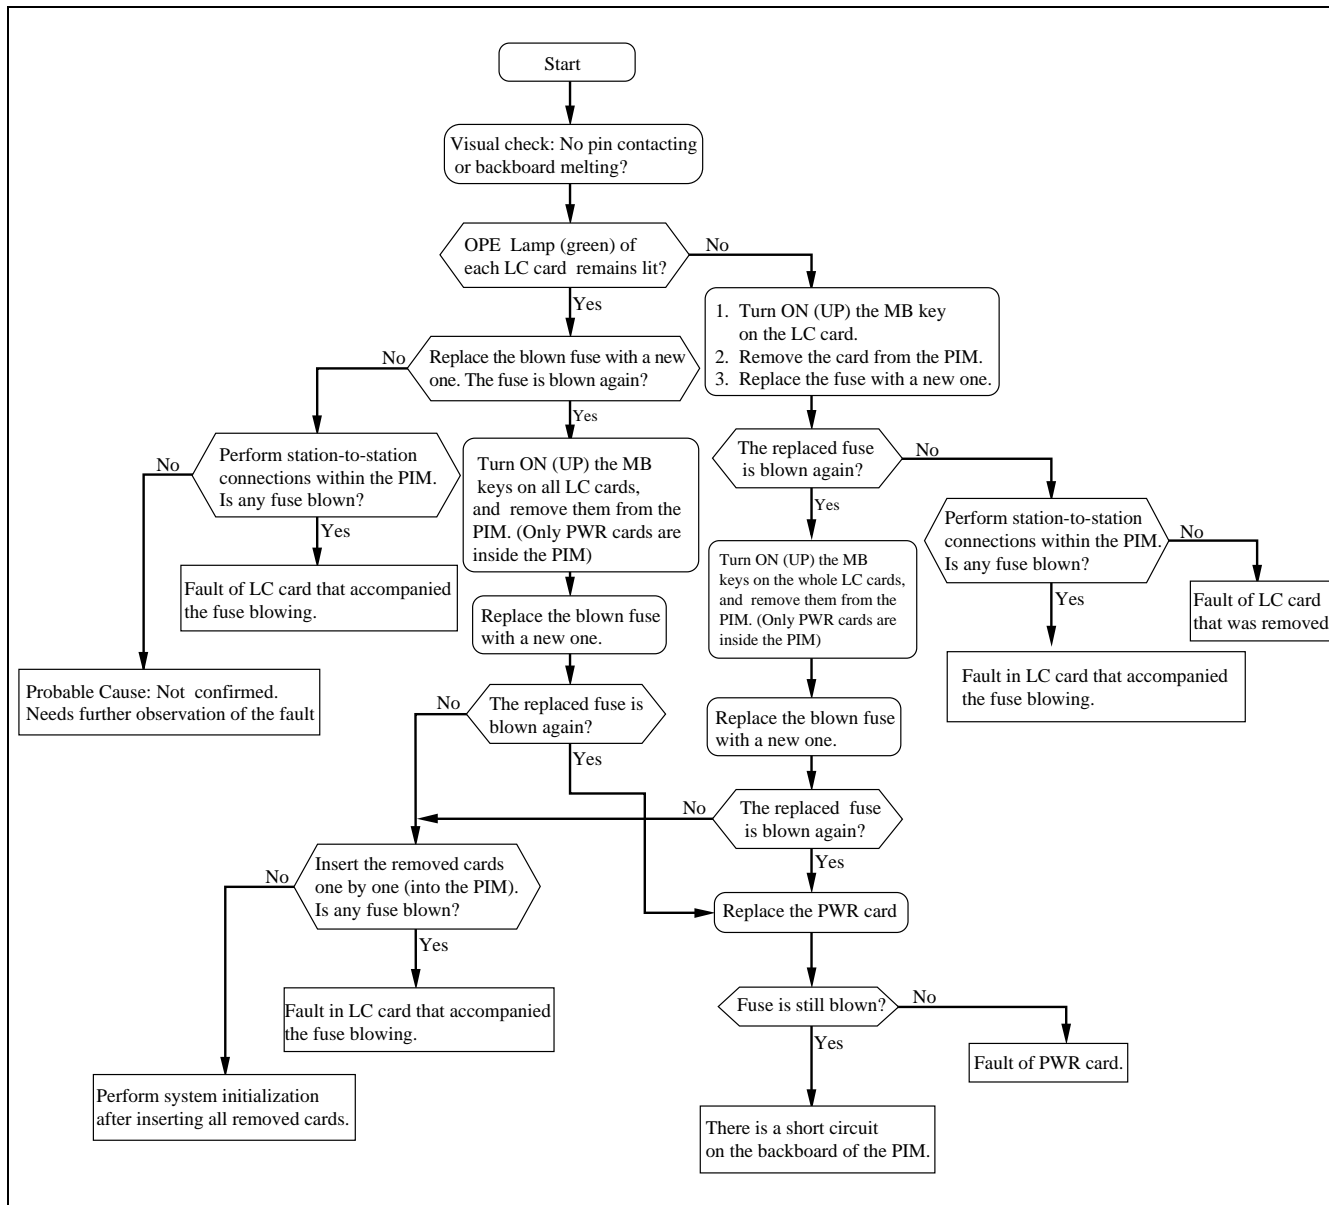
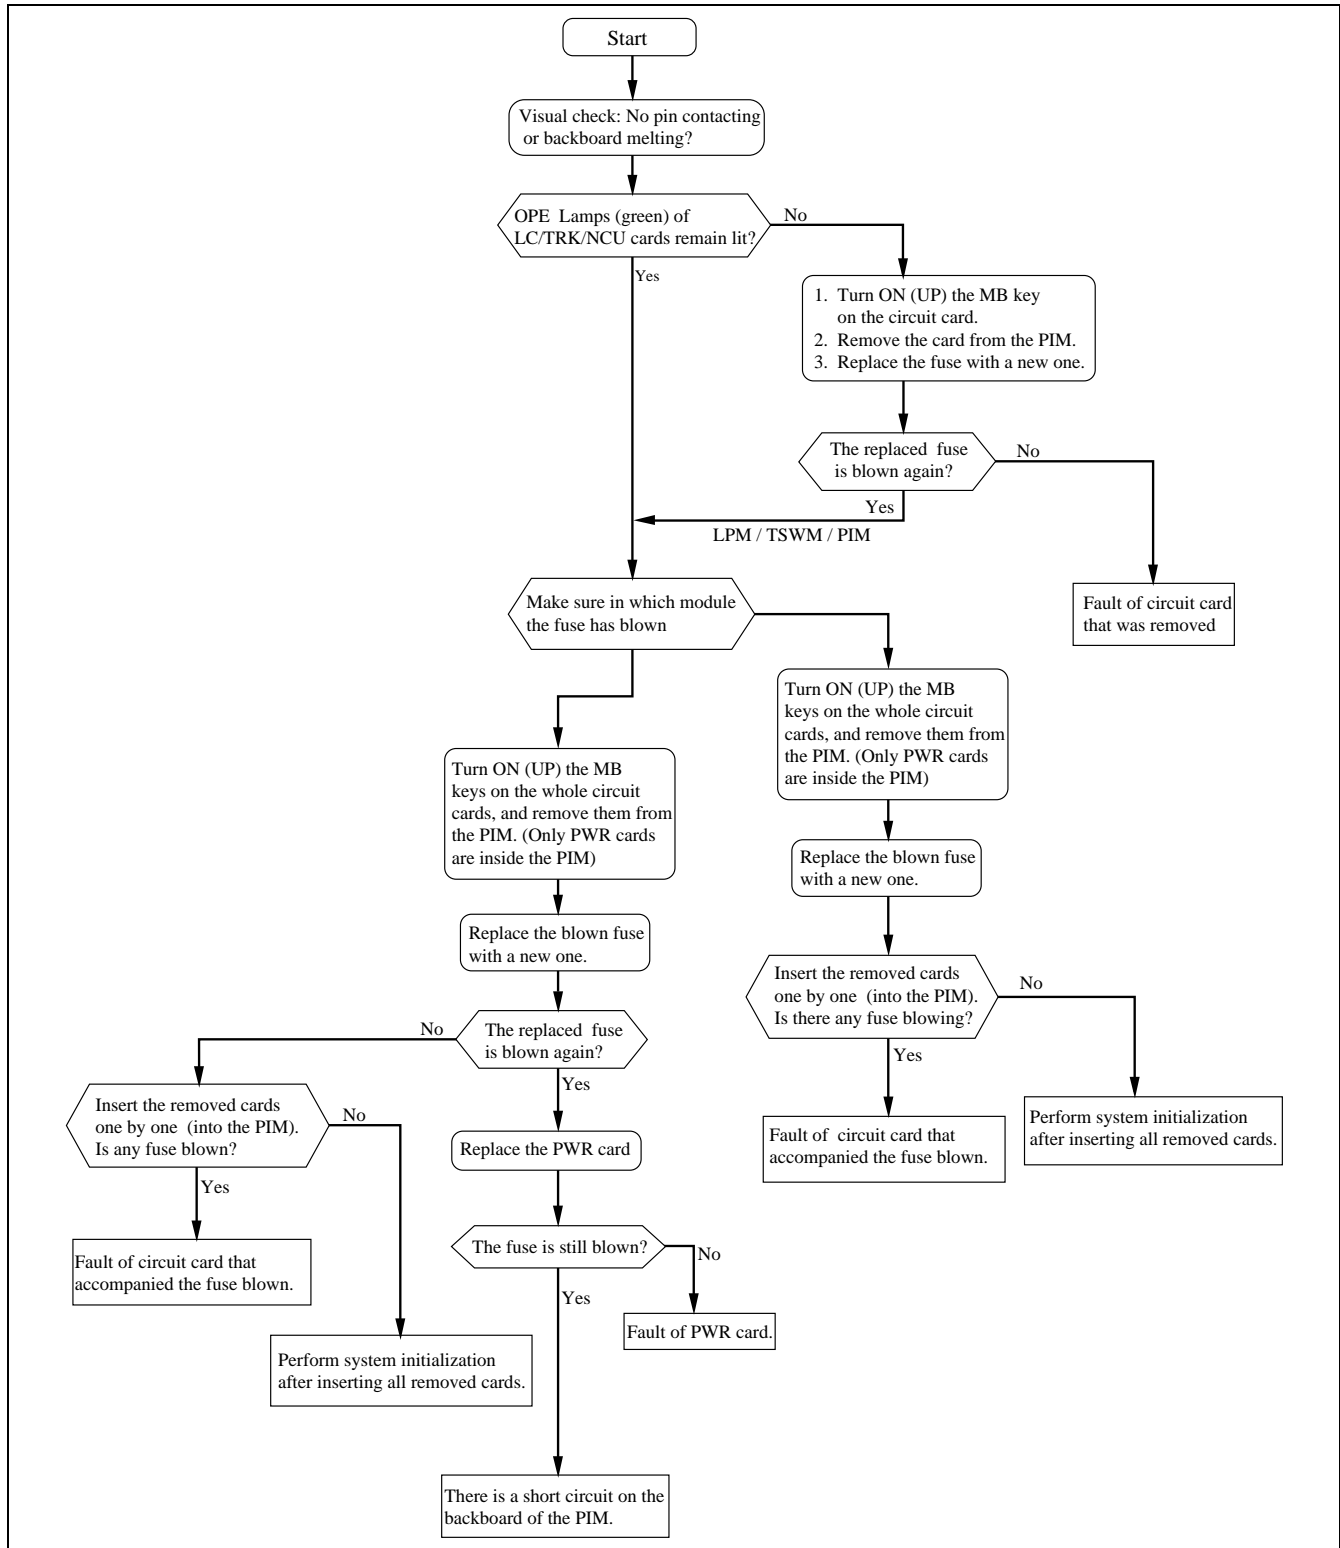

Figure 4-32 RGU Fuse Blown Fault Flowchart
Figure 4-33 DC -48V Fuse Blown Fault Flowchart
- (3) Determine the cause of the blown fault, referring to Figure 4-32 (case of RGU fuse) or Figure 4-33 (DC-48V fuse.)
Perform the procedure in Figure 4-32 to confirm the cause of the RGU fuse blown fault.
Perform the procedure in Figure 4-33 to confirm the cause of the DC-48V fuse blown fault.